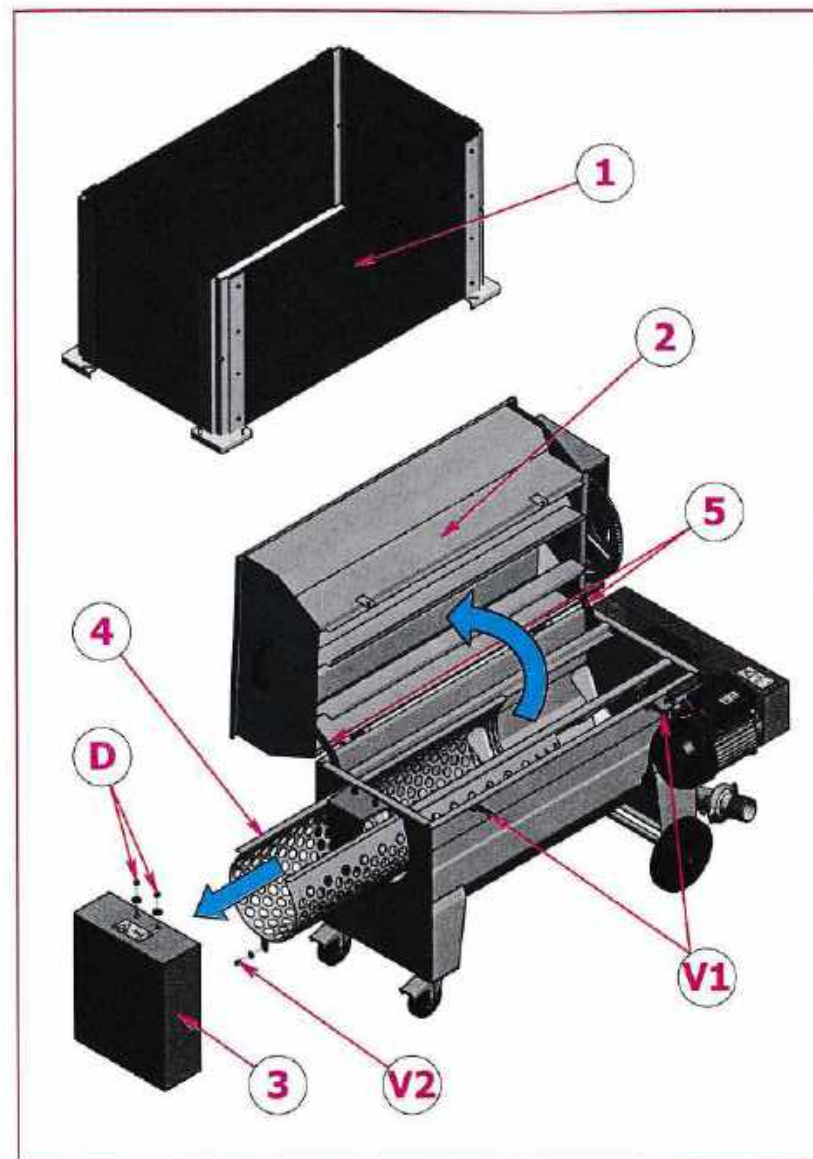

Fig. 6.4
At the end of the work day, the machine should be cleaned in the following way (see fig. 6.4):
- Unscrew the V1 screws and open the hopper 2 as shown in figure 6.4;